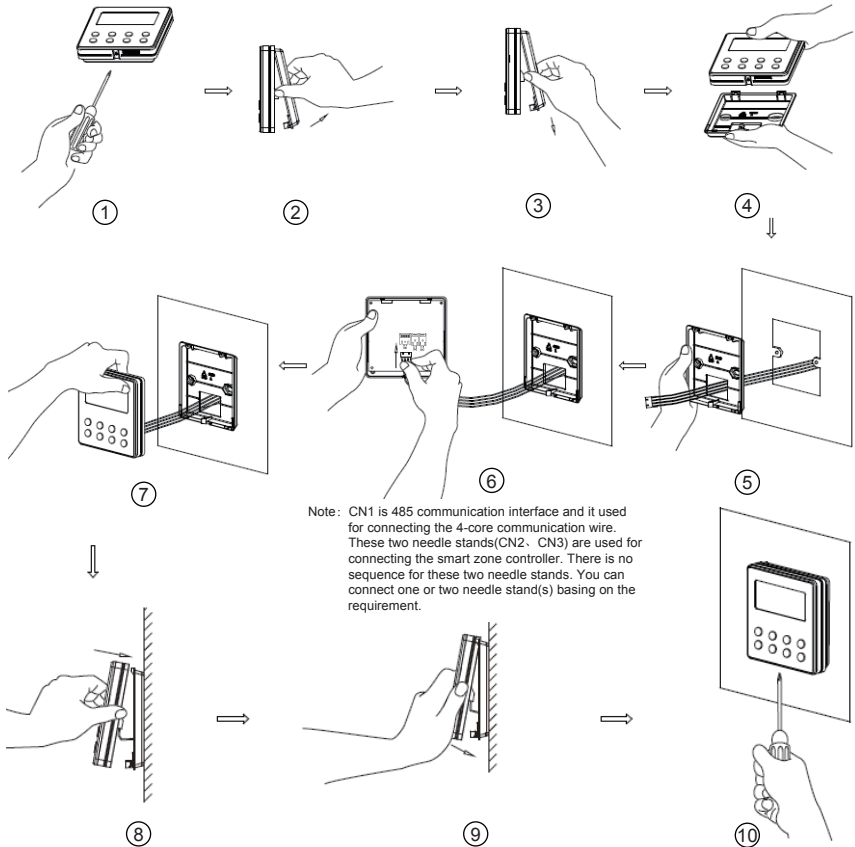

Fig.18
- Fig.18 shows the installation steps of the wired remote controller, but there are some issues that need your attention.
- (1). Prior to the installation, please firstly cut off the power supply of the wire buried in the installation hole, that is, no operation is allowed with electricity during the whole installation.
- (2). Pull out the four-core twisted pair line from the installation holes and then let it go through the rectangular hole behind the soleplate of the wired remote controller.
- (3). Stick the soleplate of wired controller on the wall and then use screw M4×25 to fix soleplate and installation hole on wall together, attach the sponge 20×20×2 at the screw hole and then press it with fingers to make sure it's attached firmly.
- (4). Insert the four-core twisted pair line into the slot of the wired remote controller and then buckle the front panel and the soleplate of the wired remote controller together.
- (5). Finally, fix the front panel and the soleplate of the wired remote controller tightly by screws ST2.9X6.